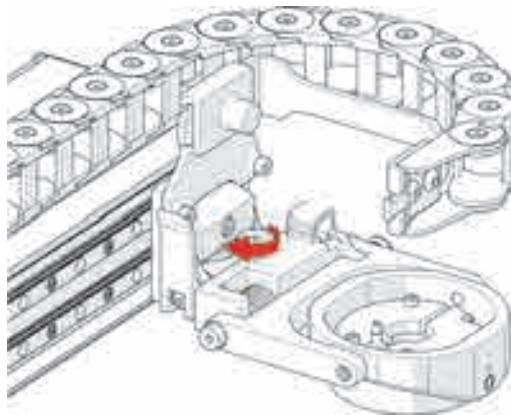

Figure 4-96 Tighten knob
5. Tighten the probe holder adjustment knob (see Figure 4-96 on page 162).